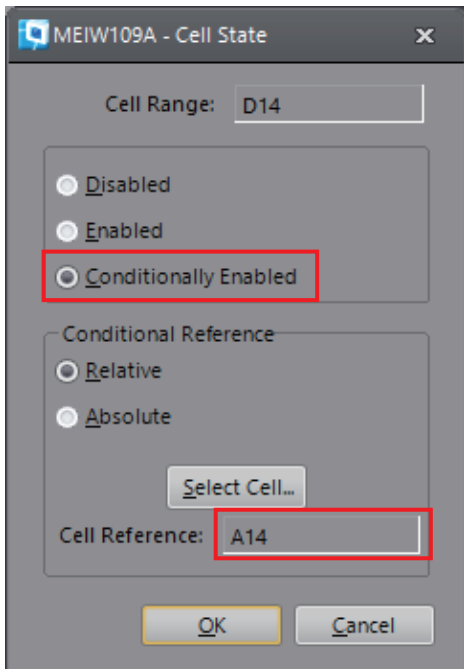

Figure 23 "Cell State" of LatchImage function in D14 cell
(4) Use the EditRegion function to set an inspection region.
(5) to (8) The control codes for light and latch image control. The codes refer to (1) and switch between 0 and 1 according to the number of capturing image.
(9) Use the IntegratedLightControl function to control integrated lights of VS70. Refer to (5) to (8) in "Bank 1," "Bank 2," "Bank 3," and "Bank 4" to turn ON or OFF the light.
(10) to (13) Use the LatchImage functions to latch images. Four LatchImage functions are required to capture an image four times. The LatchImage function to be executed is determined according to the number of capturing images by referring each from (5) to (8) in the "Cell State" on the right-click menu (Figure 23).